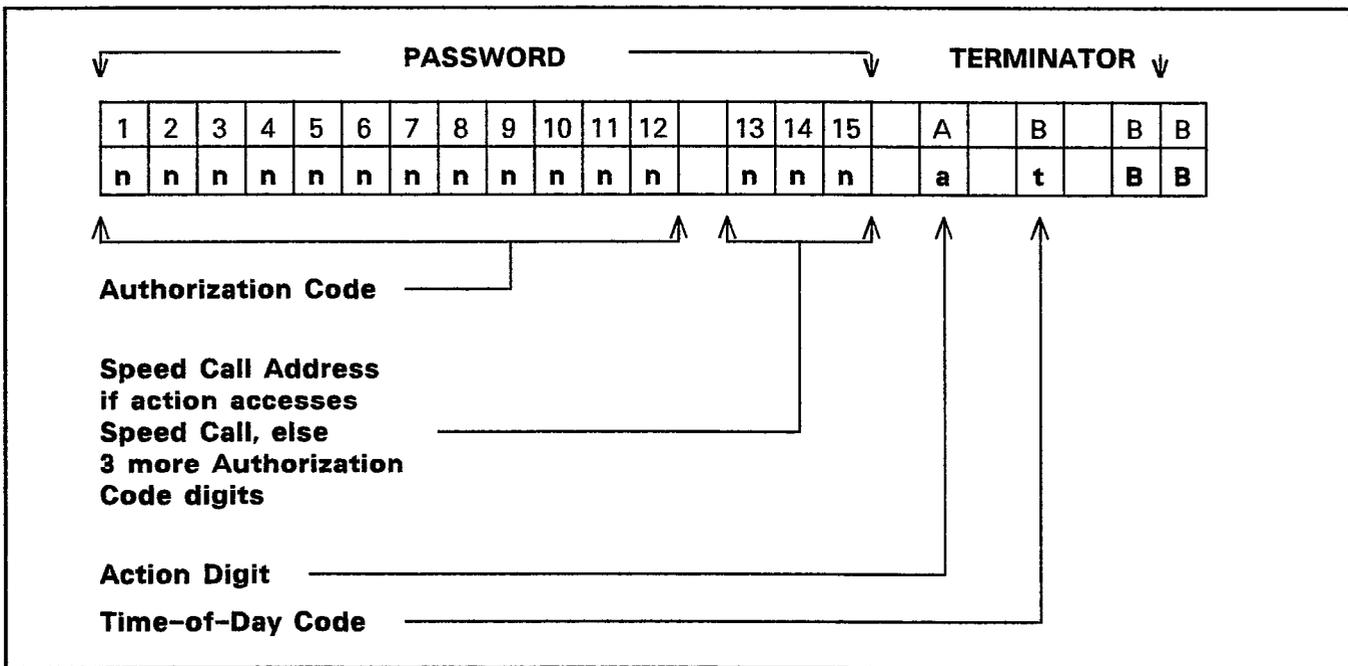

Figure 7-4, Password Format
7.78 Passwords can range from 2 to 15 digits in length, depending upon the desired usage. Refer to Figure 7-4 for an illustration of the password format. Password programming is accomplished by entering a password string in the 821 through 835 Search Tables.
7.82 Figure 7-4 illustrates the password format showing the actual password (authorization code), speed call address (if used), action digit, time-of-day code, and terminator. Password data entry must always be terminated by the 'BB' code.